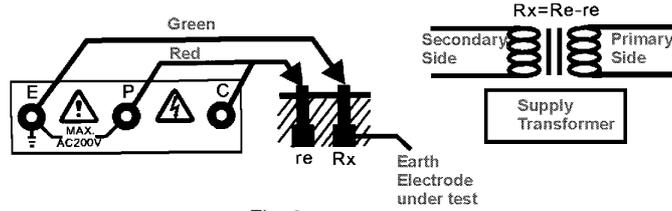

Fig. 2
- (1) This method is recommended where an earth resistance higher than 10Ω is measured or where it is not possible to drive auxiliary earth spikes. An approx. value of earth resistance can be obtained by the two-wire system as shown in Fig. 2
- (2) Rotate the function switch to the "Earth Voltage" position and press to test. Make certain that earth voltage is less than 10 V.
- (3) First rotate the function switch to " 200Ω " position and press to test. Read earth resistance. If the display shows "1" (MSD), switch to " 2000Ω " and read earth resistance.
(4) The reading obtained (R_x) is an approx. earth resistance value.